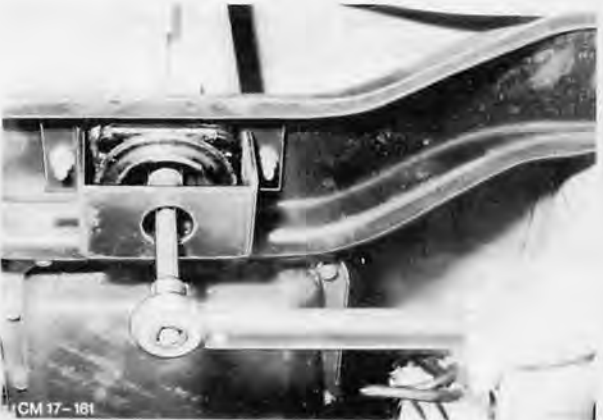

Fig. 29. Fit transmission support bracket assembly
- 21. Fit transmission support bracket assembly to body and transmission, Fig. 29, and torque to specification.